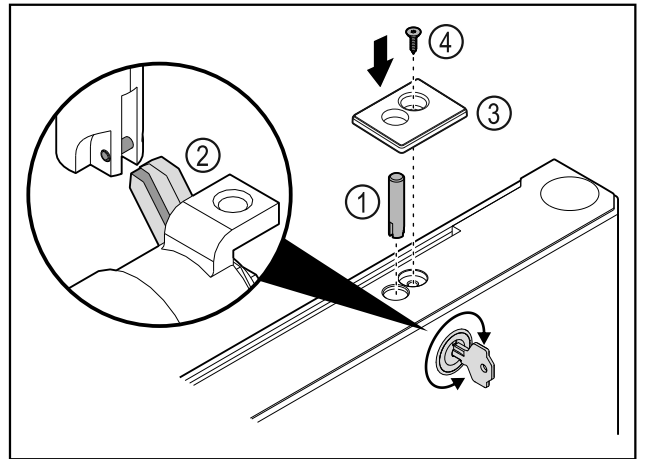

Fig. 41
- ▶ Put in the lock bolt *Fig. 41 (1)*.
- ▶ Turn the lock slightly so that the lock bolt *Fig. 41 (2)* engages in the slot of the lock.
- ▶ Put in the cover *Fig. 41 (3)*.
- ▶ Insert the screw *Fig. 41 (4)*.